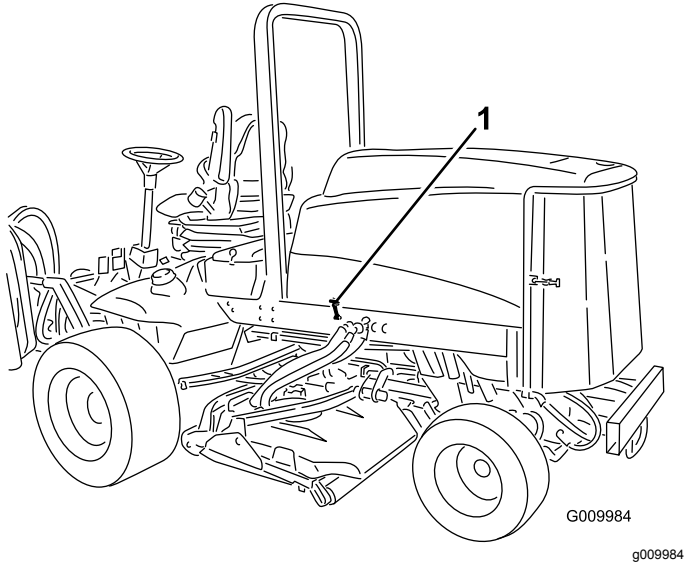

Figure 19
1. Release hood latches (Figure 19) and pivot open the hood.